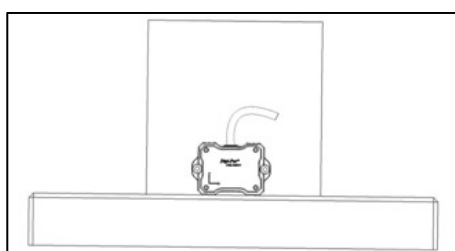

Figure 35. Tilt Sensor Module Position of Calibration Step 1
10. For **DWL5500XY & DWL5800XY** model, please perform only 4 steps calibration as shown in Figure 35, 36, 41, and 42.